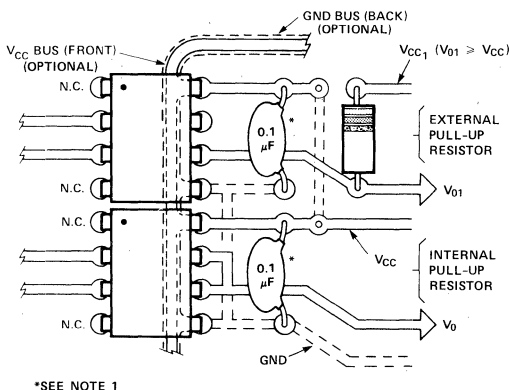

Figure 18. Recommended Printed Circuit Board Layout.
A recommended layout for use with an internal 1000 Ohms resistor or an external pull-up resistor and required V_{CC} bypass capacitor is given in Figure 18. V_{CC1} is used with an external pull-up resistor for output voltage levels (V_O) greater than or equal to 5 V. As illustrated in Figure 18, an optional V_{CC} and GND trace can be located between the input and the output leads of the HCPL-2300 to provide additional noise immunity at the compromise of insulation capability (V_{I-O}).
1. Bypassing the power supply line is required with a 0.1 μF ceramic disc capacitor adjacent to each optocoupler as illustrated in Figure 18. The power supply bus for the optocoupler(s) should be separate from the bus for any active loads, otherwise a larger value of bypass capacitor (up to 0.1 μF) may be needed to suppress regenerative feedback via the power supply.